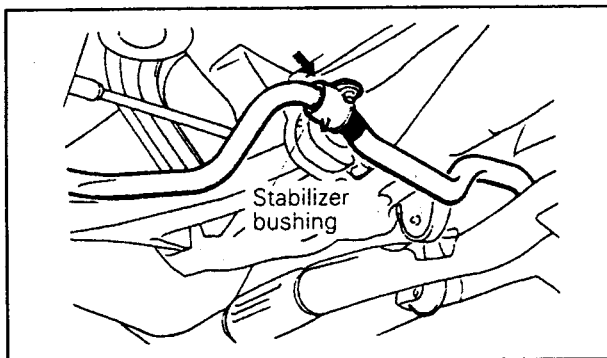

Fig. 10.10. — Fitting the stabiliser bar (refer to text).
- Push the stabiliser bar to one side so that the L.H. end of the stabiliser bar marking and the edge of the mounting bush clamp are aligned as shown in Fig. 10.10. In this position tighten the four mounting clamp bolts to 2.2 kgm (16 ft.lb.).